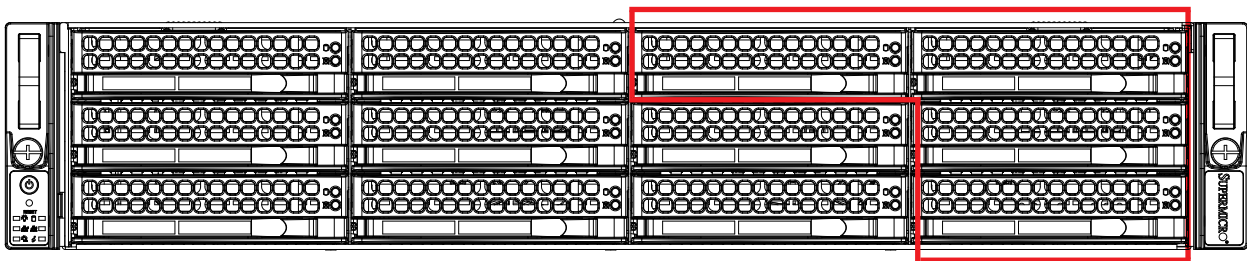

Figure 3-4. Optional NVMe/SAS Drive Bays
- **IPMI > Server Health > NVMe SSD** – Shows the temperatures of all NVMe drives, as in Figure 3-4.